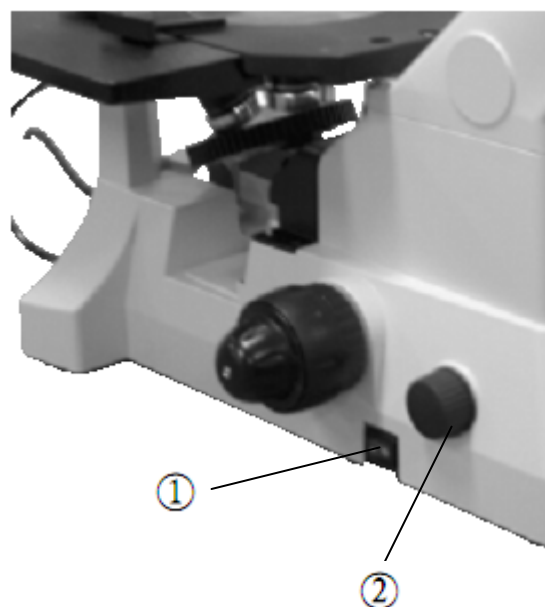

Fig.16
#### 4-1-1 Turning on the lamp (Fig.16)
Connect the power supply, turn on the main switch①(shown in Fig.16)which on the bottom side of the base to “—”(on).
#### 4-1-2 Adjusting the brightness( Fig.16)